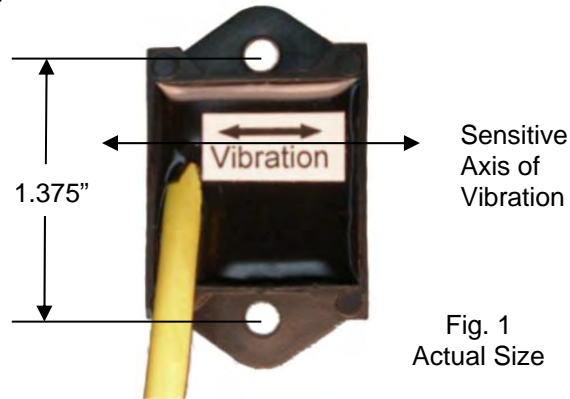

Fig. 1
A. ORIENT THE SENSOR so that its sensitive axis is in the same direction as the vibration of the feeder. The double-ended arrow in figure 1 shows
- 6) Remove the vibration sensor from its protective backing. Remove the liner from the adhesive backing. Avoid touching the tape. Align the sensor as shown in figures 1 and 2. Apply the vibration sensor to the prepared area of the feeder. Press the sensor very firmly onto the feeder surface for at least 10 seconds.